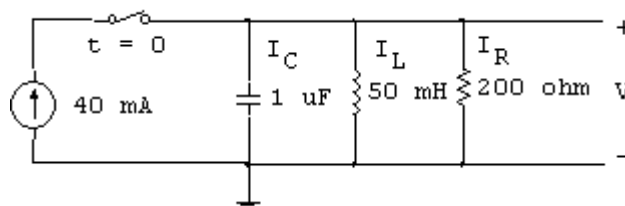

Figure 2. RLC Application Circuit-II
2. In the circuit shown in Figure 2, it is assumed that the switch has been in the open position for a long time, and at ($t = 0$), the switch is moved to the closed position.
Realize the steps a and d for Figure 1 and Figure 2 of the preliminary study.